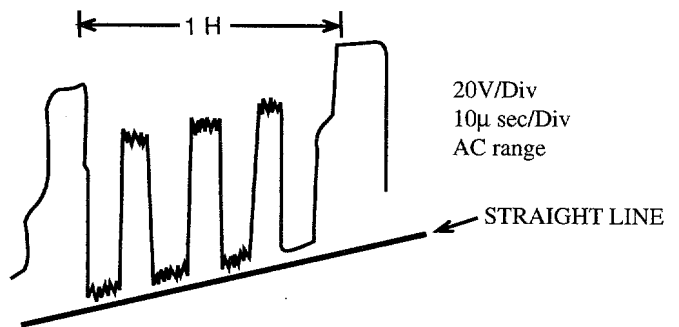

Fig. 2-5
- (1) Receive an NTSC 3.58 MHz color bar signal.
- (2) Connect an oscilloscope to Q553 Collector (on the NK C.B.).
- (3) Adjust SFR303 so the bottom edges of the waveform fall on one line. (See figure 2-5)